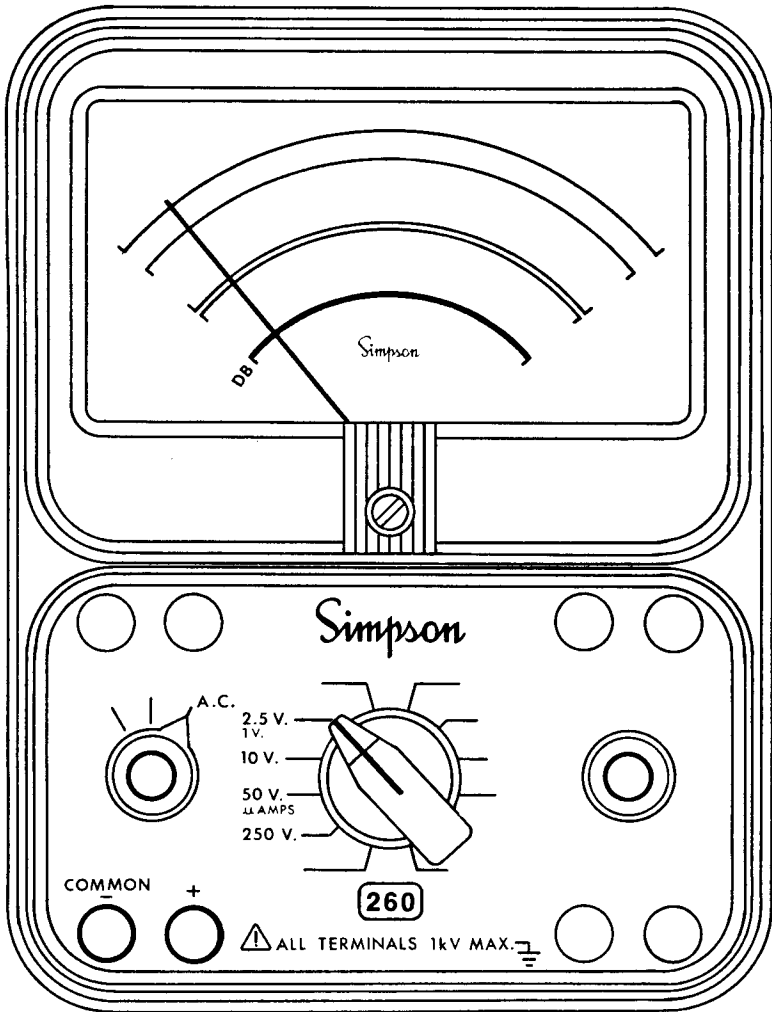

FIGURE 4-6. JACKS AND SWITCH POSITIONS FOR MEASURING DECIBELS
- b. Refer to Figure 4-6 for switch settings and jack connections.